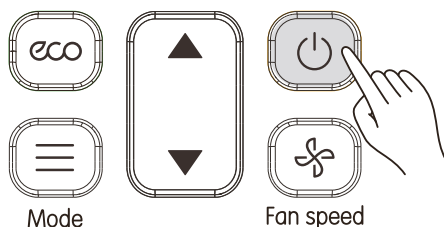

fig. 11
1) Press (see "fig. 11"), Indoor unit starts to run